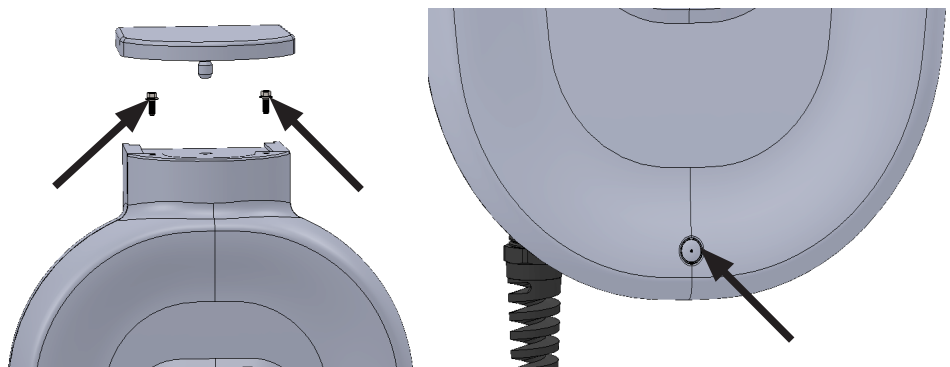

Figure 10: Remove 2 M3x6 screws using 2.5mm allen key and M3x25 screw using phillips screw driver
- Lift the top cap of the base unit and remove two M3x6 HSHC screws along with M3 washers using 2.5mm Allen key as shown in Figure 10.
- Remove the rubber plug and screw(M3x25 self tapping screw) located at bottom side of the base unit using phillips screw driver as shown in Figure 10.